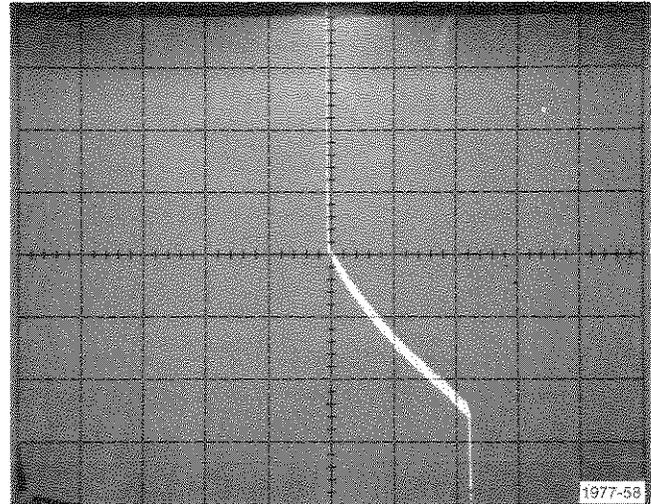

Fig. F-6. Typical display of voltage gain of MC3302P.
b. Turn the SWEEP AMPLITUDE control slowly clockwise until the sweep provides a usable measurement area (see Fig. F-6).